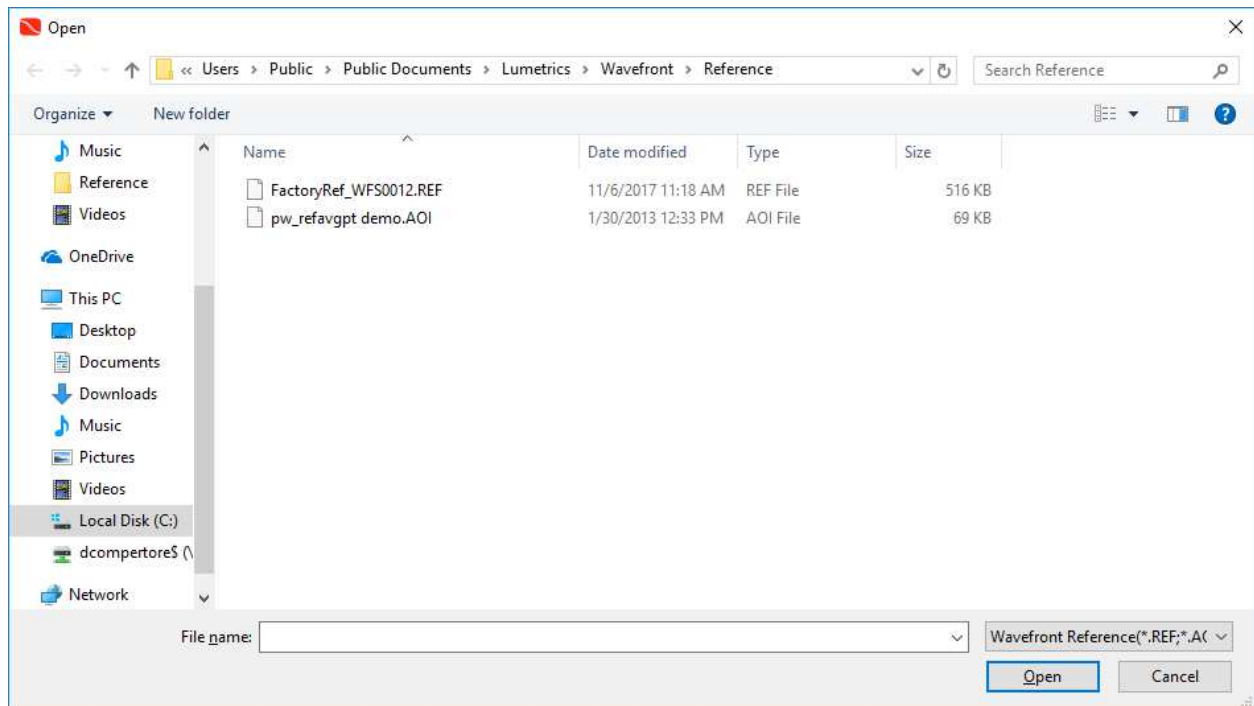

Figure 10: Loading a factory reference file
- a. **FactoryRef_WFS0012.REF**, is a specific example and can be seen in Figure 10.